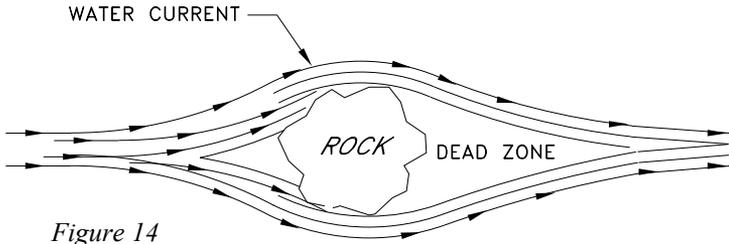

Figure 14
**7.2.5 Zones of Silence:** Large natural or man-made objects can block acoustical transmission under certain conditions, in much the same way that a rock blocks a fast-moving current of water. Close to the backside of the rock, in this example, the current is absent and the water seems still. A short distance away, the current is flowing again (Figure 14).